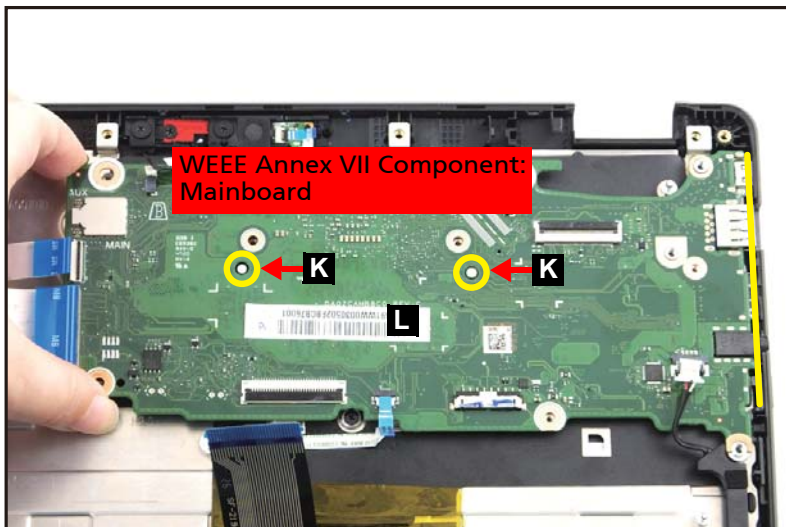

Figure 1-29. Mainboard Removal
11. Release the mainboard from the I/O ports slots and guide pins (K) on the top assembly. Then remove the mainboard (L) (Figure 1-29).